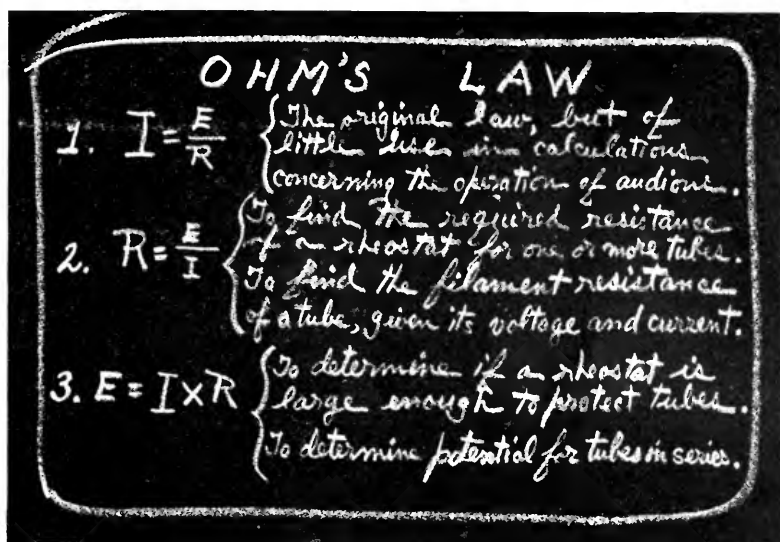

FIG. 1
THE accompanying chart, Fig. 1, shows the three laws, and indicates the various computations in which they are commonly involved. The equation most readily applicable to the operation of the dry-cell tube is the second, and which declares that the resistance is equal to the voltage divided by the current.
If you know any two of the three predominant tube characteristics—voltage (E), amperage (I), and resistance in ohms (R)—you can find the third by the formulas given in Fig. 1